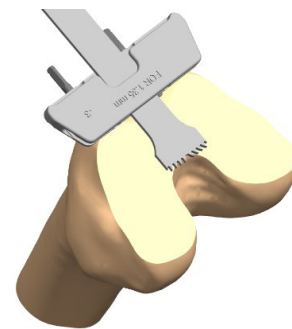

Figure 66
3. Resect the distal femur (Figure 66) then remove the distal femoral cutting block.